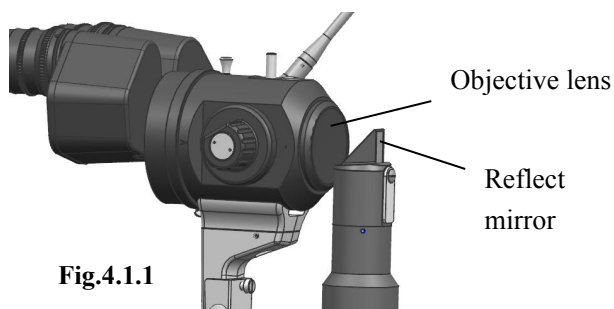

Fig.4.1.1
- ① Cleaning the lens and mirror: If dust adheres to the lens or mirror, gently wipe it off with soft cotton dampened with absolute alcohol (see Figure 4.1.1).